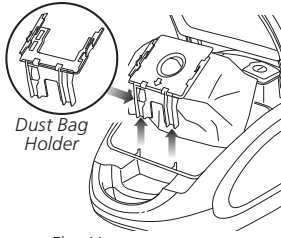

Fig. 11
- 4** Hold the dust bag holder and gently pull it out. (Fig. 11)